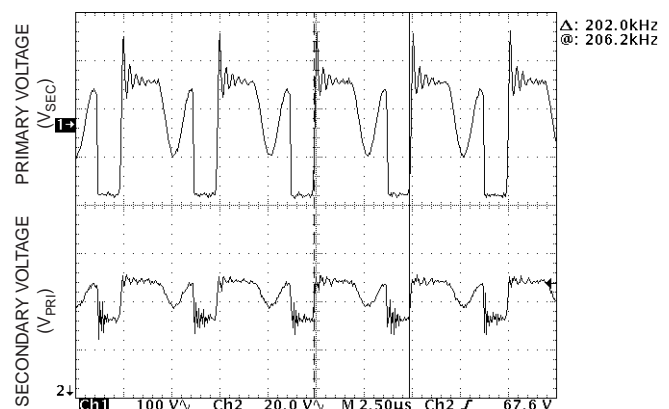
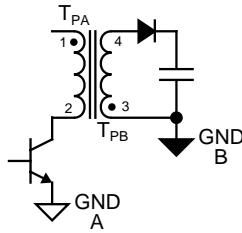

Figure 7. Off-Line Supply Switching Waveforms
Figure 8. Flyback Topology, Partial Schematic
This section discusses some of the typical measurements made on the popular flyback and forward-type transformers. The most common flyback transformer issue is incorrect polarity. See Figures 8 and 9 for a schematic diagram utilizing the two transformer types.
The polarity of a transformer means that two terminals represented by polarity dots (see Figure 8 or 9), are instantaneously in phase with respect to a common ground.
The top and bottom waveforms of Figure 7 are the voltages at test point A and B in Figure 8 respectively. These waveforms should be in phase. The polarity dot tells the winding technician that pin 1 is the start of the winding and pin 2 is the finish. If the technician winds the opposite way, the transformer is incorrect, the supply will perform poorly, and the main switch will heat and fail.
For flyback- and forward type-transformers, the relationship of phasing from primary to secondary can be found by using Figure 8. The rule of thumb for identifying the two is:
- Flyback transformers always have polarity dots at opposing terminals. See Figure 8.